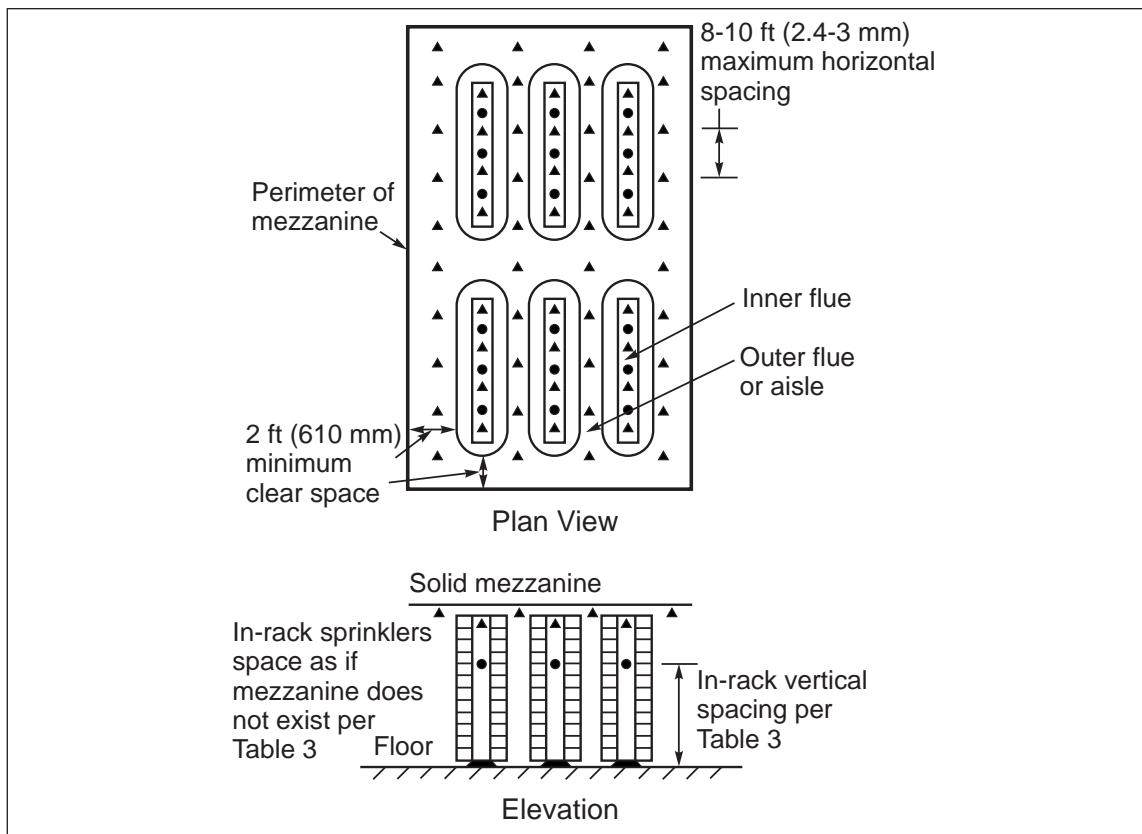

Fig. 1. Sprinkler location below mezzanine.
| Fig. 1. Sprinkler location below mezzanine. | 4 |
a) Install sprinklers in every flue (inner flue and outer flue between carousels) and aisle, and between the last carousel and the perimeter of the mezzanine, as shown in Figure 1. Horizontal spacing between sprinklers should be 8 to 10 ft (2.4 to 3 m).